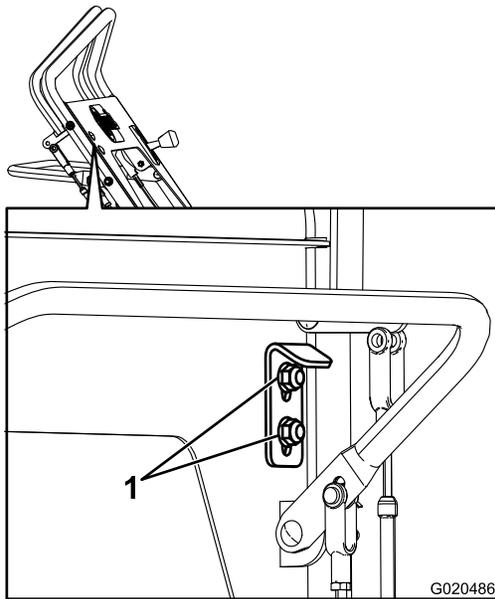

Figure 38
- Loosen the 2 nuts on the reverse speed stop (Figure 38).
- Move the stop down to the midpoint or slightly past it and tighten the 2 nuts (Figure 38).